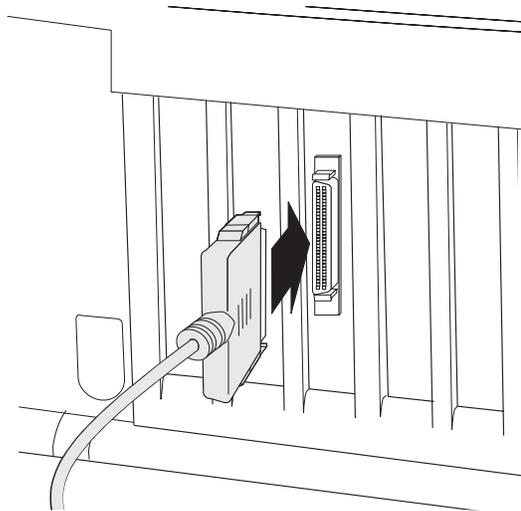

Figure 2-7. Attaching an External Cable to the External SCSI Connector
- 2** If you are connecting 8-bit external SCSI devices, attach one end of the 50-pin cable to the 50-pin external SCSI connector of the expansion kit. If you are connecting 16-bit external SCSI devices, attach one end of the 68-pin cable to the 68-pin Ultra Wide external SCSI connector of the expansion kit (shown in Figure 2-7.)